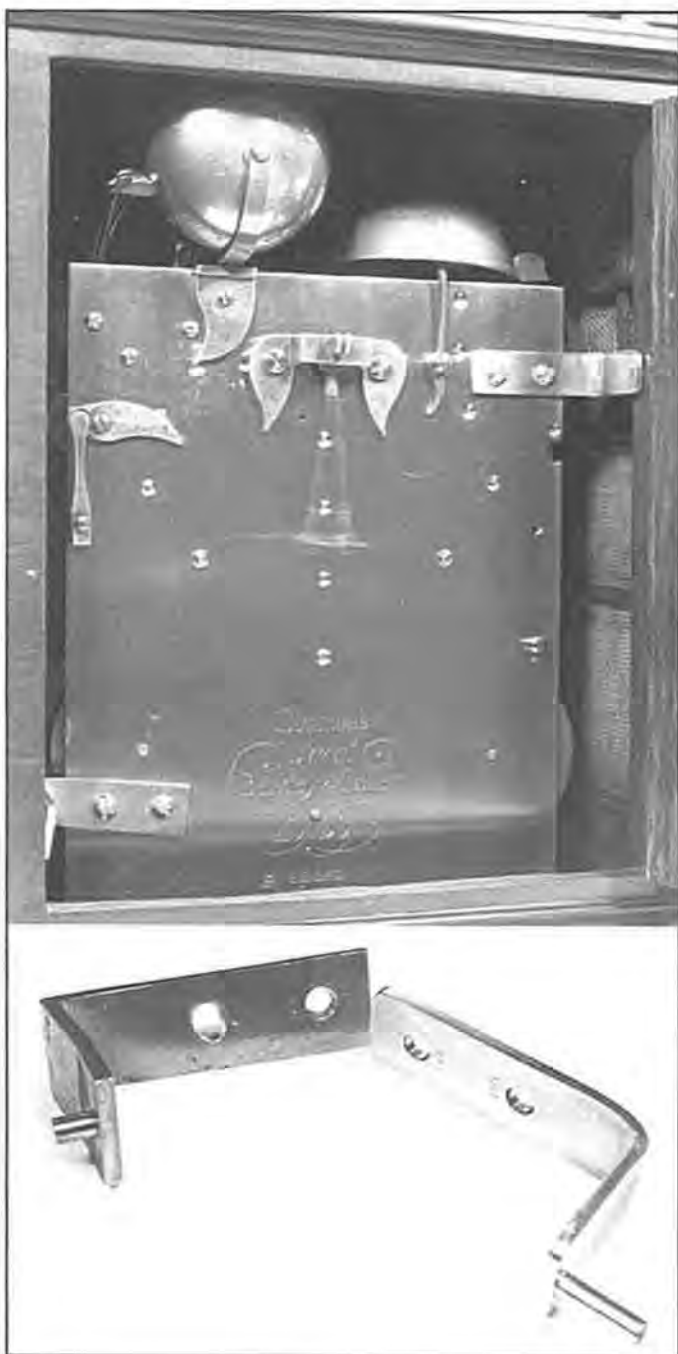

Figure 36.4. Movement Hold-Down Brackets
38. Install hour strike bell (Figure 36.4).
Note: The hour strike bell is mounted on a bell post (shown but not numbered in Figure 36.4). The bell post is then attached with one screw to the back plate as shown.
39.2. Attach back of bell stack mount to the back plate with one screw as shown in Figure 36.4.
42.2. Install movement hold-down brackets (Figure 36.4, shown but not numbered).
43.2.3. Secure the stack with the one screw (Figure 36.4).